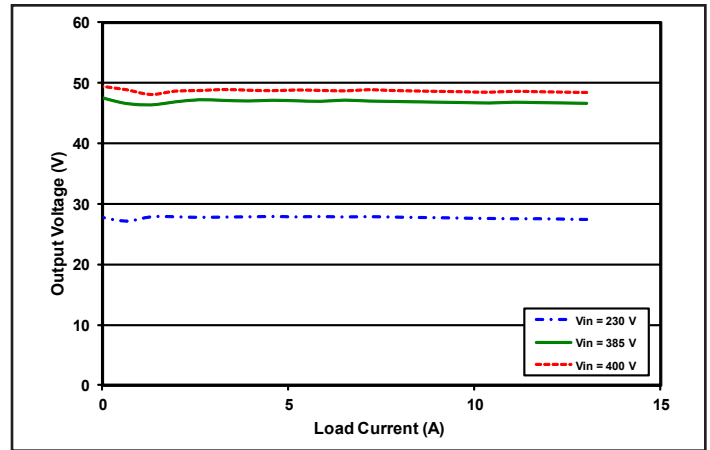

Figure 8: Output voltage vs. load current, regulation curves for minimum, nominal, and maximum input voltage at TCASE=25 °C.
**Operation at Light Loads:** The load versus output voltage characteristic of the converter was modified considerably to reduce power dissipation at light loads (see the output voltage curves at less than 8 amps load in Figure 8). However, this characteristic also reduces the current share accuracy of paralleled converters during light load operation.